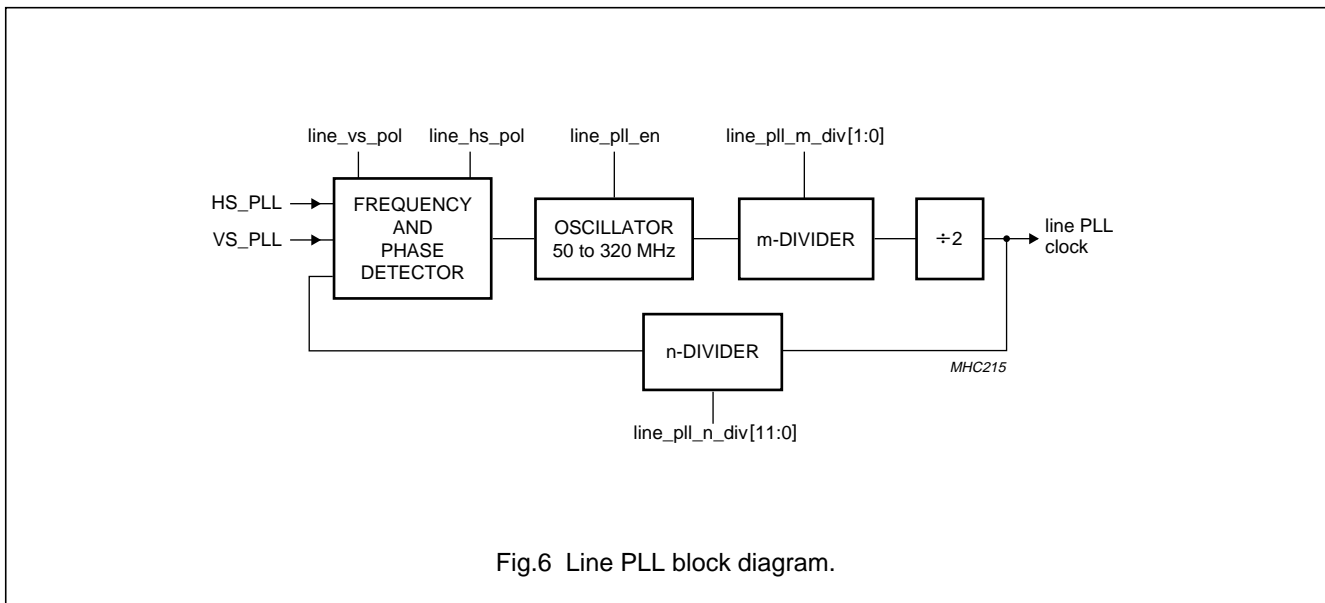

Fig.6 Line PLL block diagram.
- Line-locked PLL generating the sample clock from the `hsync` signal (see Fig.6)